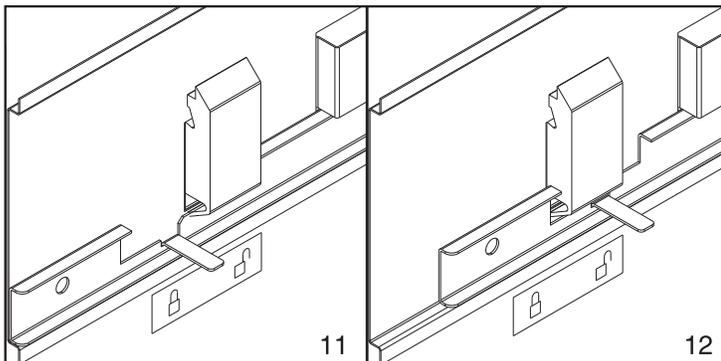

Figure 78. Placing the locked/unlocked sticker on the cover panel
- e. Place a locked/unlocked sticker on the inside of the cover panel so that when the slide bar is in the locked position, the tab is over the locked symbol (11), as shown in Figure 78 on page 86, and over the unlocked symbol (12), when the slide bar is unlocked.